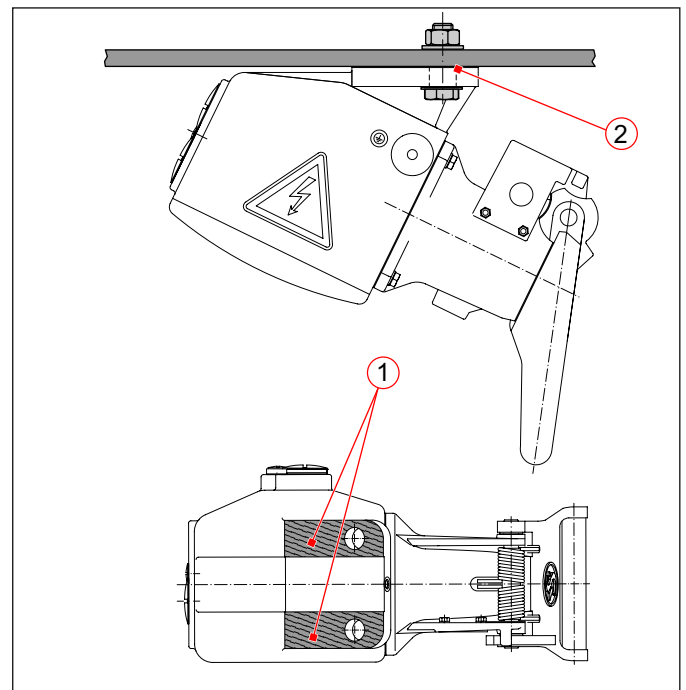

Fig. 4: Earthing surfaces on coupling receptacle (1) and mounting frame (2)
▶ Before the installation, make sure that the earthing surfaces on the receptacle and on the mounting frame (Fig. 4/1 und 2) are free of varnish or any contamination.